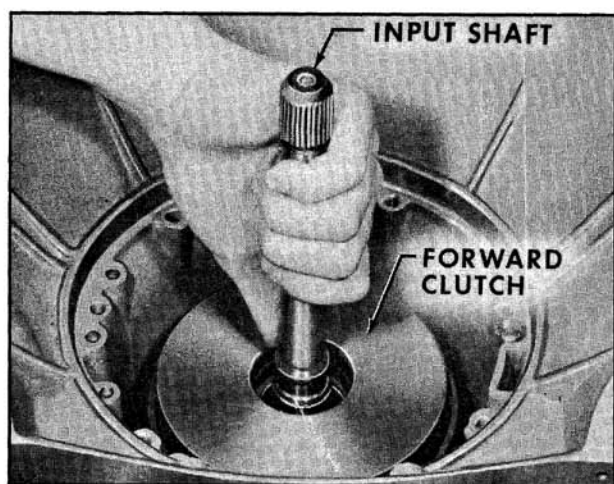

Fig. 6-362 Removing Input Shaft
1. Remove input shaft from forward clutch drum. (Fig. 6-362)